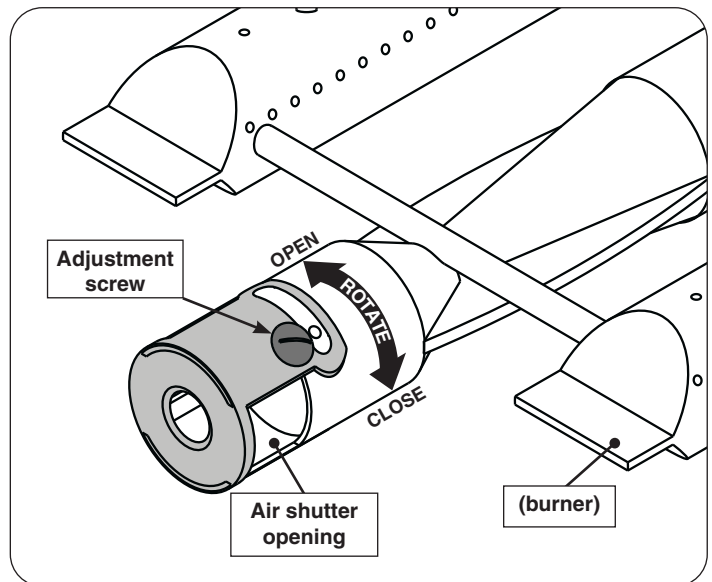

Fig. 32-2 Main burner air shutter adjustment detail
1. To adjust the air shutter, loosen the adjustment screw with a flathead screwdriver. Then rotate the shutter to open or close it. See Fig. 32-2 for details.